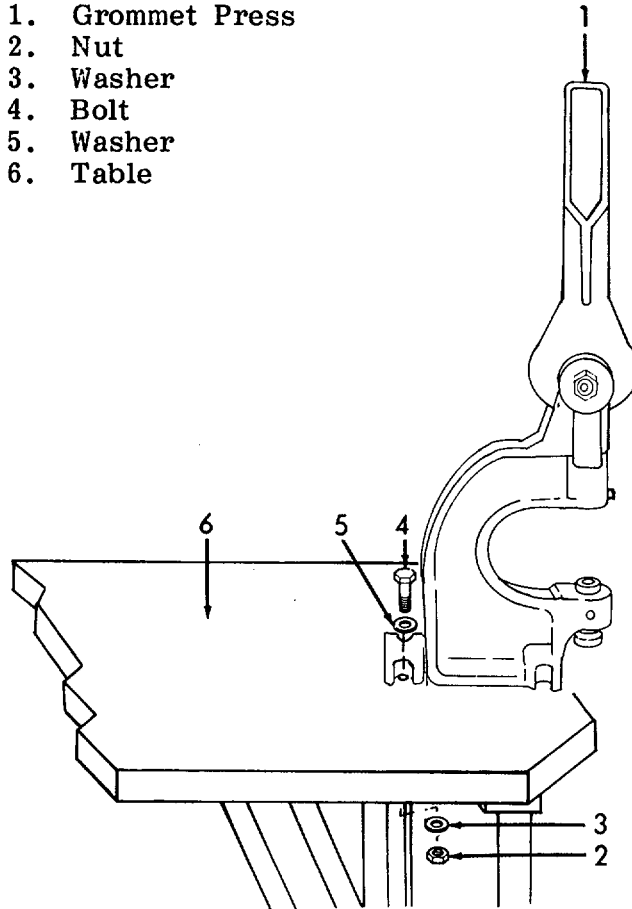

Figure 2-60. Grommet Press, Removal.
d. *Grommet Press (Refer to Figure 2-60).*